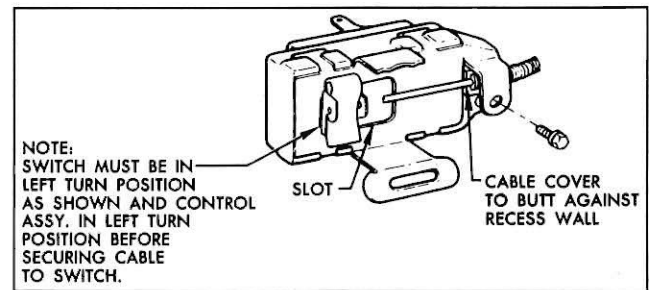

Fig. 13—Disconnect Control Cable from Switch
10. Disconnect the control cable from the switch (fig. 13).